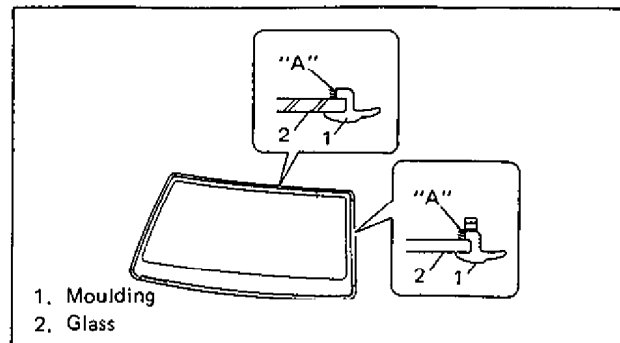

Fig. 9-65-1
9) Using new brush, apply sufficient amount of primer for moulding (Urethane) to surface "A" as shown in Fig. 9-65-1.